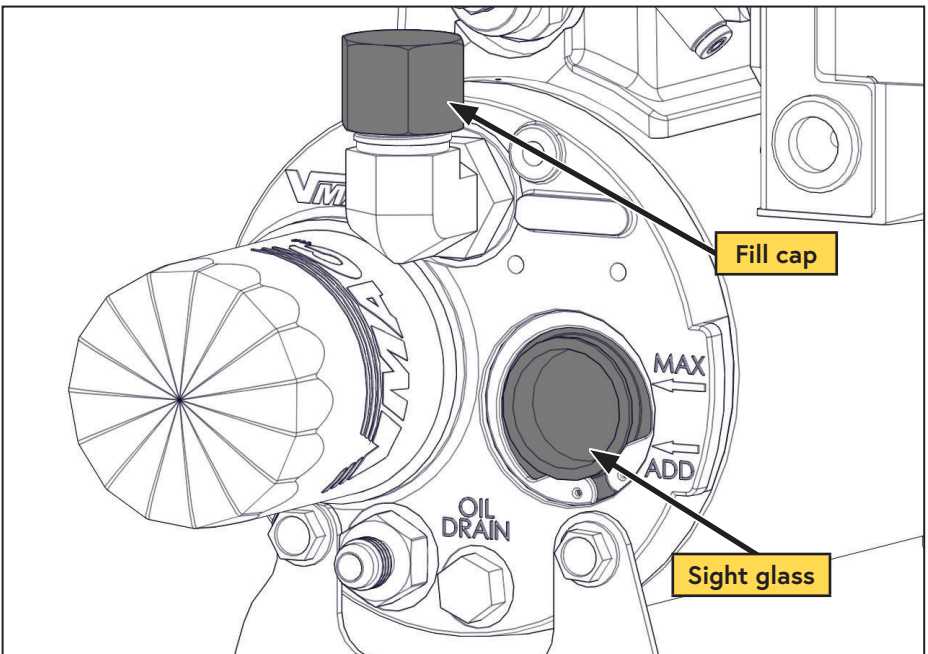

Figure 40 — Filling the WHASP Tank
- Remove the fill cap on the WHASP Tank (above the sight glass) (Figure 40).
- Using a funnel, pour oil into the tank until the oil level in the sight glass reaches the "MAX" line. **The system capacity is 4 L** (Figure 40).